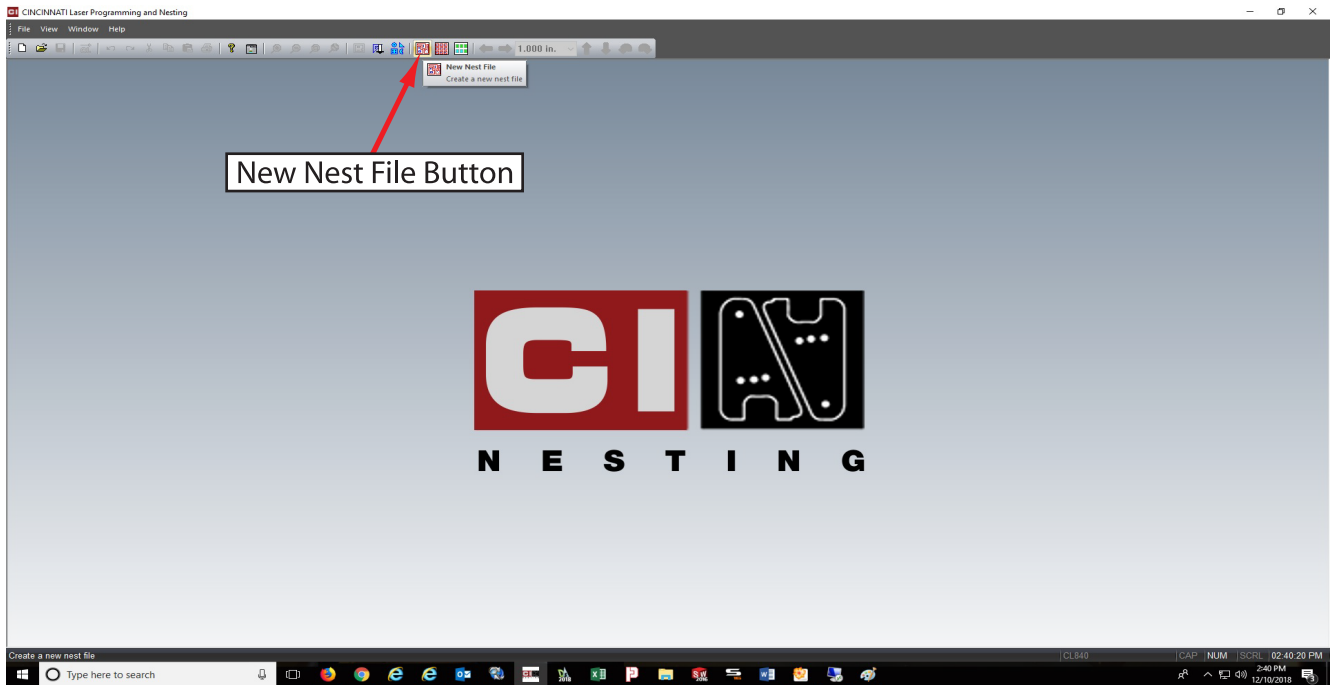
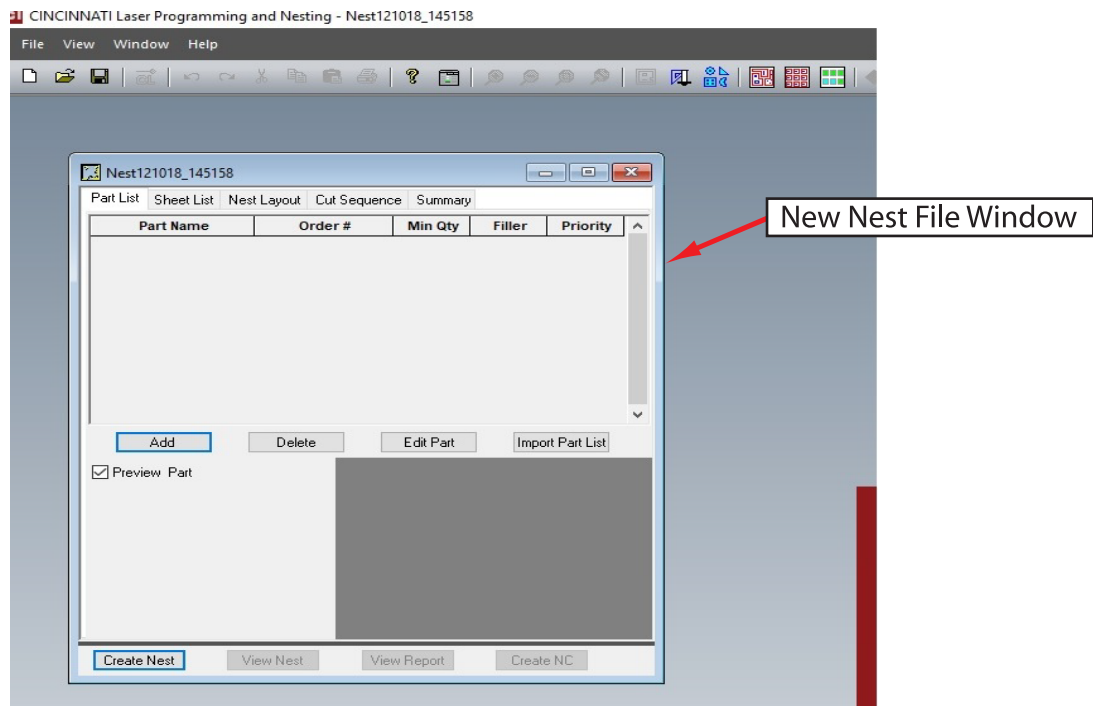

Fig.2
Fig.3
- 1) First open a nest file as usual, by opening the program by selecting a “New Nest File” button as shown below in Fig.2 and a new nest file window will open for you to begin as shown below in Fig.3.